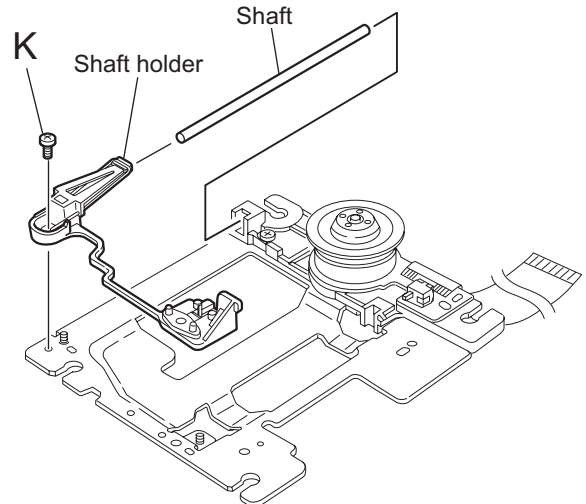

Fig.20
2.4.4 Removing the shaft holder/ shaft (See Fig.20)